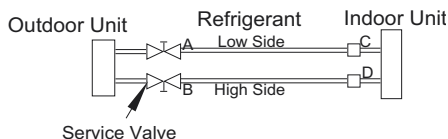

Fig. 16 – Service Valve
1. Completely tighten flare nuts A, B, C, D, connect manifold gage charge hose to a charge port of the low side service valve. (See Fig. 16.)